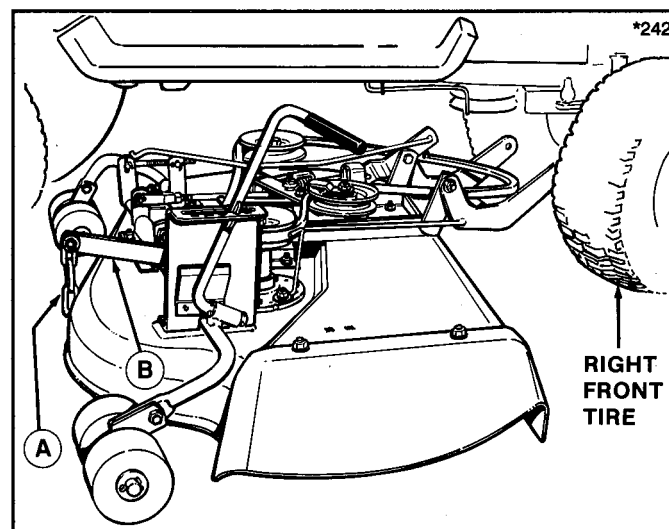
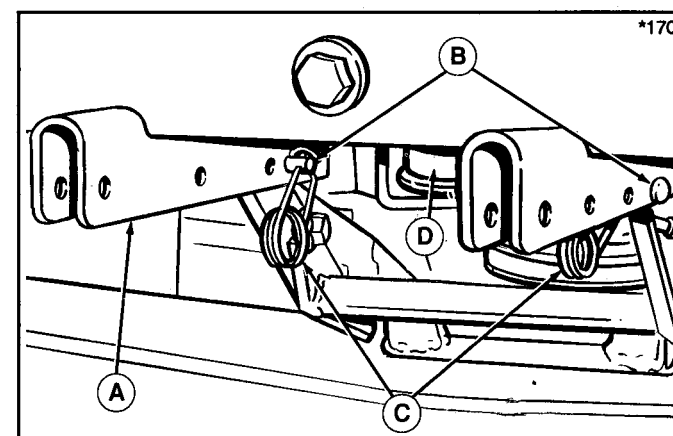
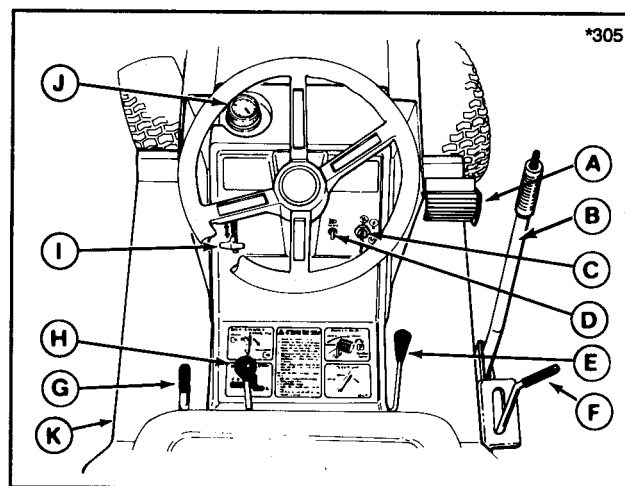

Figure 1. Installing 36" Mower
Figure 2. Mower Hitch Arms
Figure 8. Tractor & Mower Controls
NOTE: The lift chain (A, figure 1) should be connected to the rear hole in lift arm (B) unless optional large lift arm (B, figure 8) is used to raise mower. With large lift lever, connect chain in forward hole.
3. Place the mower in lowest cutting position and slide it under the tractor, aligning arms (C, figure 1) with tractor hitch (A, figure 2).
5. Lift up front of mower and insert pins (B, figure 2) to attach mower hitch arms to tractor hitch (A). (You can insert a pry bar under front edge of deck to raise.) Connect the clips (C) into the pins.
Refer to figure 8 for an explanation of tractor and mower controls.